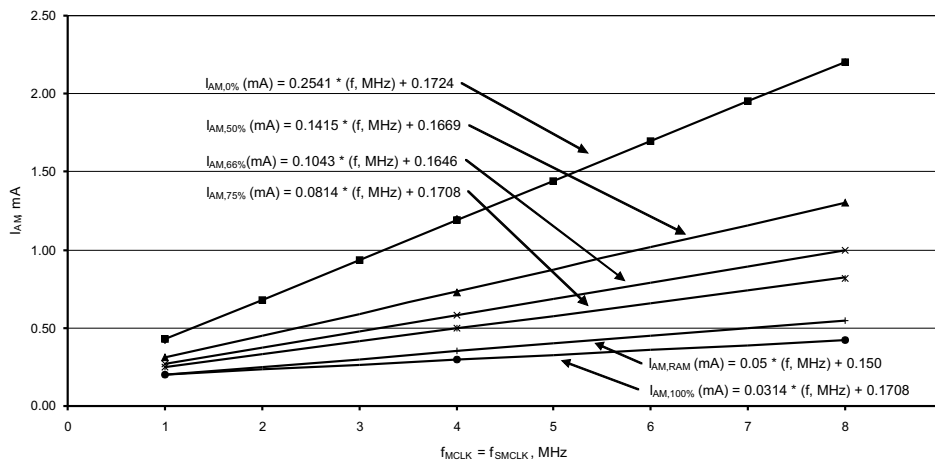

Figure 5-1. Typical Active Mode Supply Currents, No Wait States
- (6) See Figure 5-1 for typical curves. Each characteristic equation shown in the graph is computed using the least squares method for best linear fit using the typical data shown in .